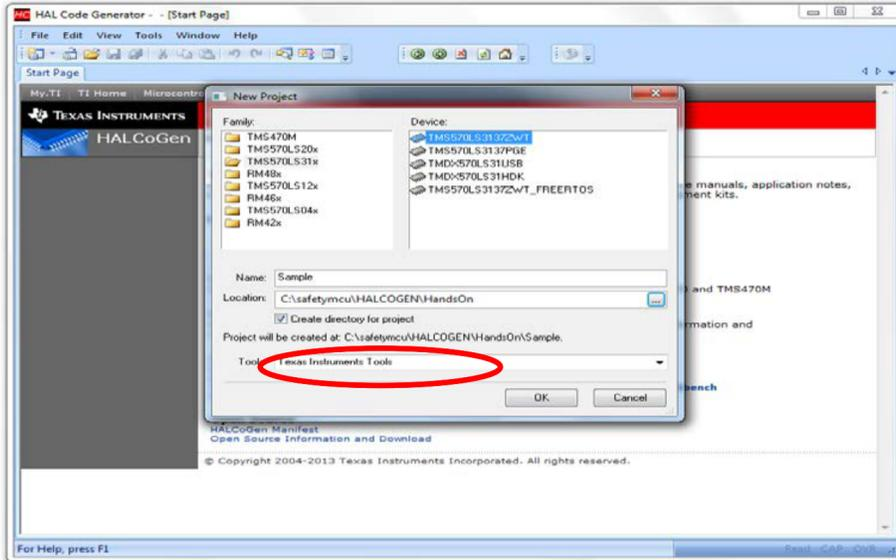

Figure 4. HALCoGen Project Selection
1. Create a HALCoGen project using HALCoGen (v04.02.00 or higher) (see Figure 4).